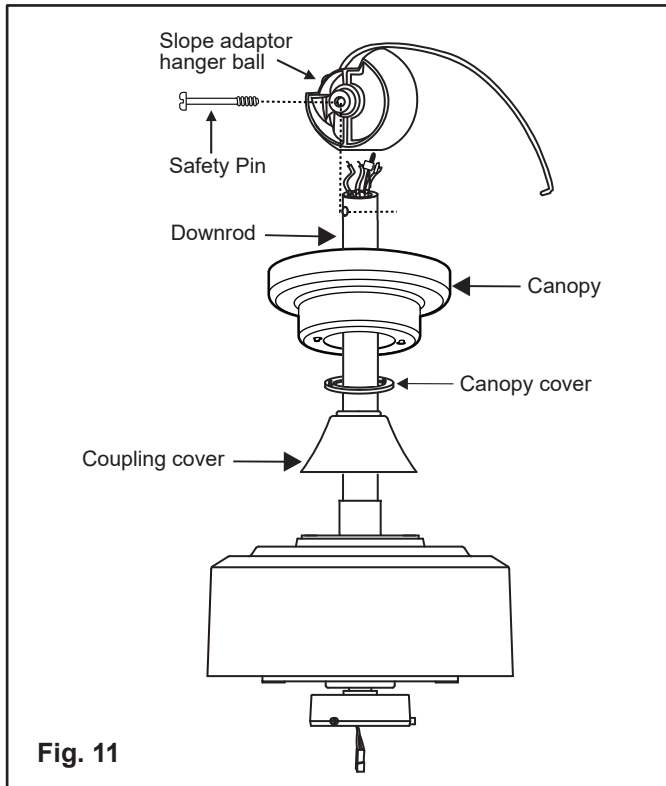

Fig. 11
. Slip the coupling cover, mounting screw cover and canopy onto the downrod in the order shown. (Fig. 11)
7. Thread the Slope Adaptor Hanger Ball onto the downrod until the Safety Pin center hole on the Ball aligns with the safety pin hole in the downrod. Insert the safety pin (careful not to damage the lead wires.) (Fig. 11)